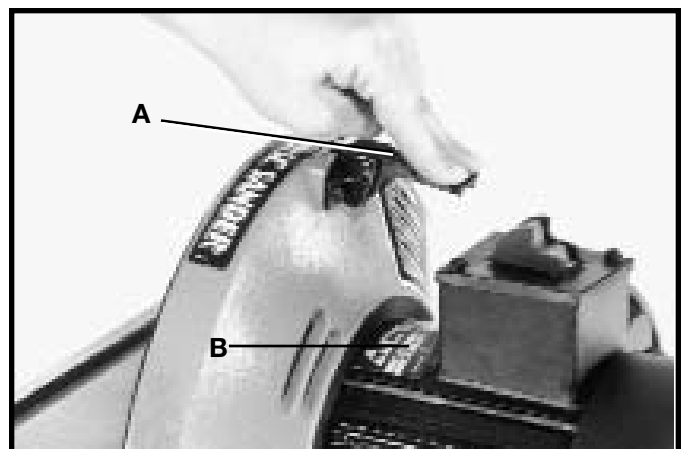

Fig. 20
This 12" Disc Sander is equipped with a manual disc brake which can be applied by pressing down on brake lever (A) Fig. 20, after the switch has been turned off.
The majority of work performed on the disc sander is usually accomplished using the table as a support as shown in Fig. 20, but a 3/8" x 3/4" slot (A) Fig. 22, is machined into the table of the sander to facilitate miter gauge applications as shown in Fig. 23. The use of a miter gauge will provide accurate straight and angled end-sanding as shown. Miter gauge (B) Fig. 23, is available at your nearest Delta Distributor (Cat. No. 34-779).